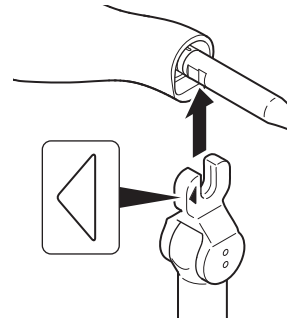

Figure 82 – Torque Wrench Orientation
2. Install the torque wrench head onto the tip flats (Figure 82).
- Make sure the arrow on the torque wrench head is oriented correctly (Figure 82).